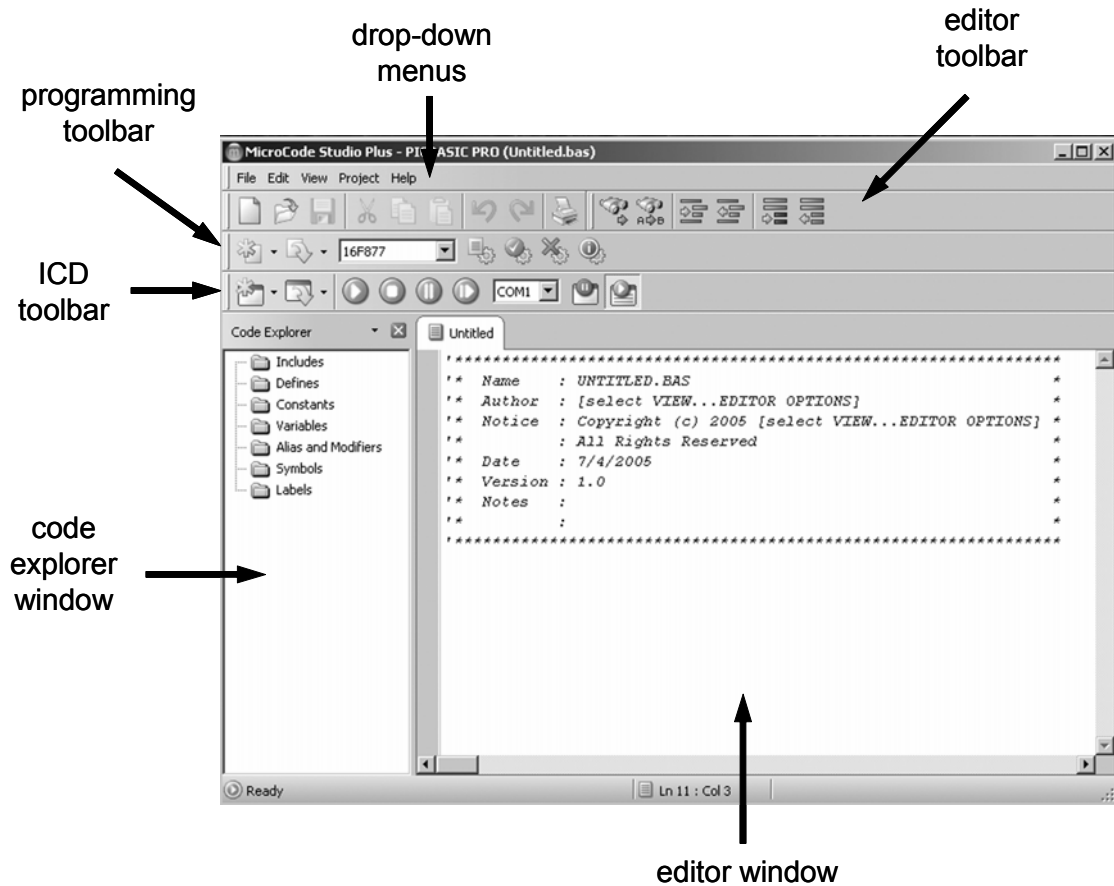

Figure 2. MicroCode Studio Plus window.
1. Launch MicroCode Studio from the Start Menu. The window is shown in Figure 2. The interface consists of a set of dropdown menus, toolbars, a code explorer window, and a main editing window.